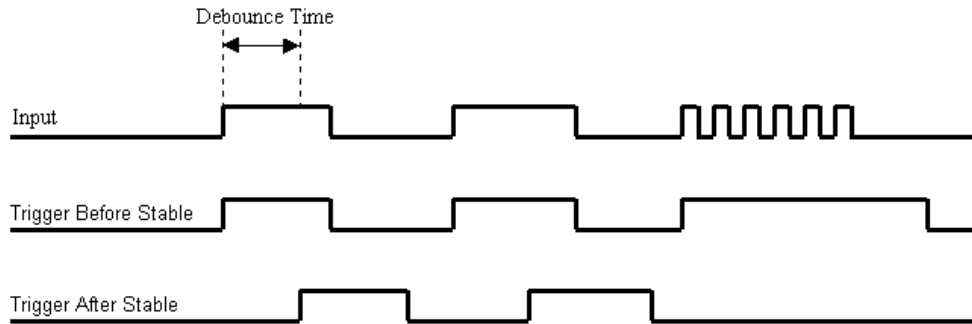

Figure 17. Optimal debounce time for trigger after stable mode
*Trigger after stable* mode behaves more like a traditional debounce function: rejecting glitches and only passing state transitions after a required period of stability. *Trigger after stable* mode is used with electro-mechanical devices like encoders and mechanical switches to reject switch bounce and disturbances due to a vibrating encoder that is not otherwise moving. The debounce time should be set short enough to accept the desired input pulse but longer than the period of the undesired disturbance as shown in Figure 17.